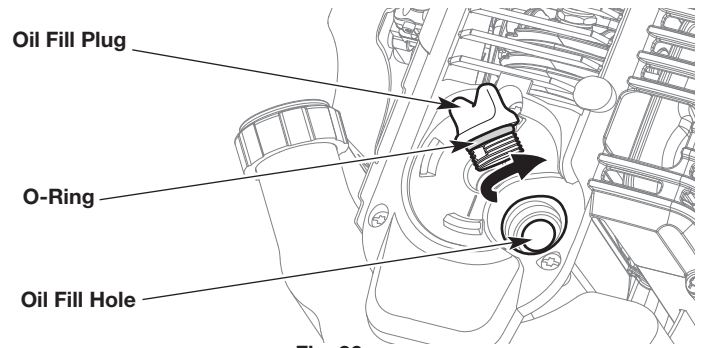

Fig. 26
3. Clean the area around the oil fill plug (Fig. 26) to prevent debris from entering the oil fill hole (Fig. 26).
7. Make sure the O-ring is in place on the oil fill plug (Fig. 26).
1. Clean the area around the oil fill plug (Fig. 26) to prevent debris from entering the oil fill hole.